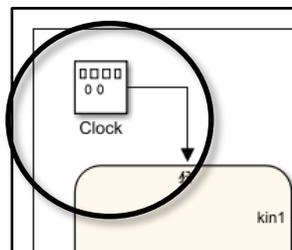

Figure 20. Linking Signal Generator (clock) to event port.
- a) Include a “Signal Generator” block (either from [library browser] → [Source] → [Signal Generator] or type “Signal Generator”.) Optional: rename the label as “Clock”. Then link the block to the event input as shown in Figure 20.